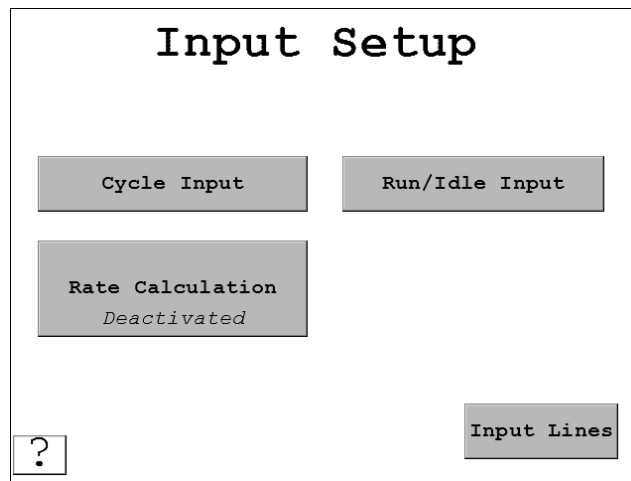

Figure 3-4. Input Setup Screen
6. Press *Input Setup*. The Input Setup screen appears (Figure 3-4, page 44), showing “Activated” on the *Rate Calculation* button.
2. On the Input Lines menu, press *Input Setup*. The Input Setup screen appears, Figure 3-4, page 44.